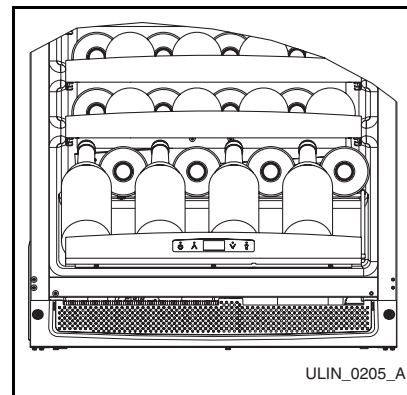

Figure 7
1. The wine racks should be stocked beginning with the lowest rack, at the back, and working forward. Stagger the bottles as shown (**Figure 7**).